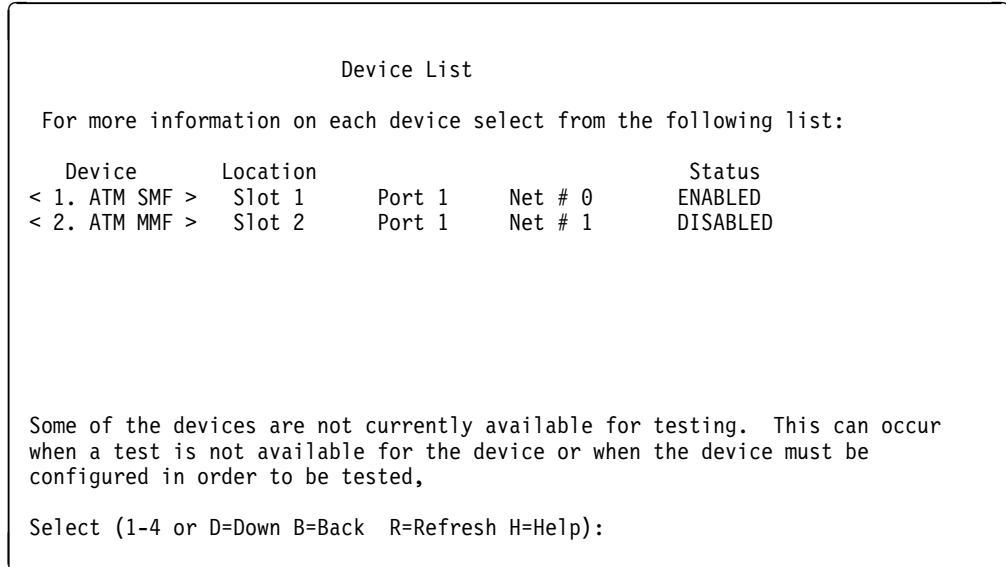

Figure 4-2. Sample of Device List Page Showing Interfaces
3. Select **<1. The Device List >** to view a list of installed devices. (Status and test options for each device are from the Device List page.) The Device Status and Control page (similar to the one in Figure 4-2 on page 4-4) appears.